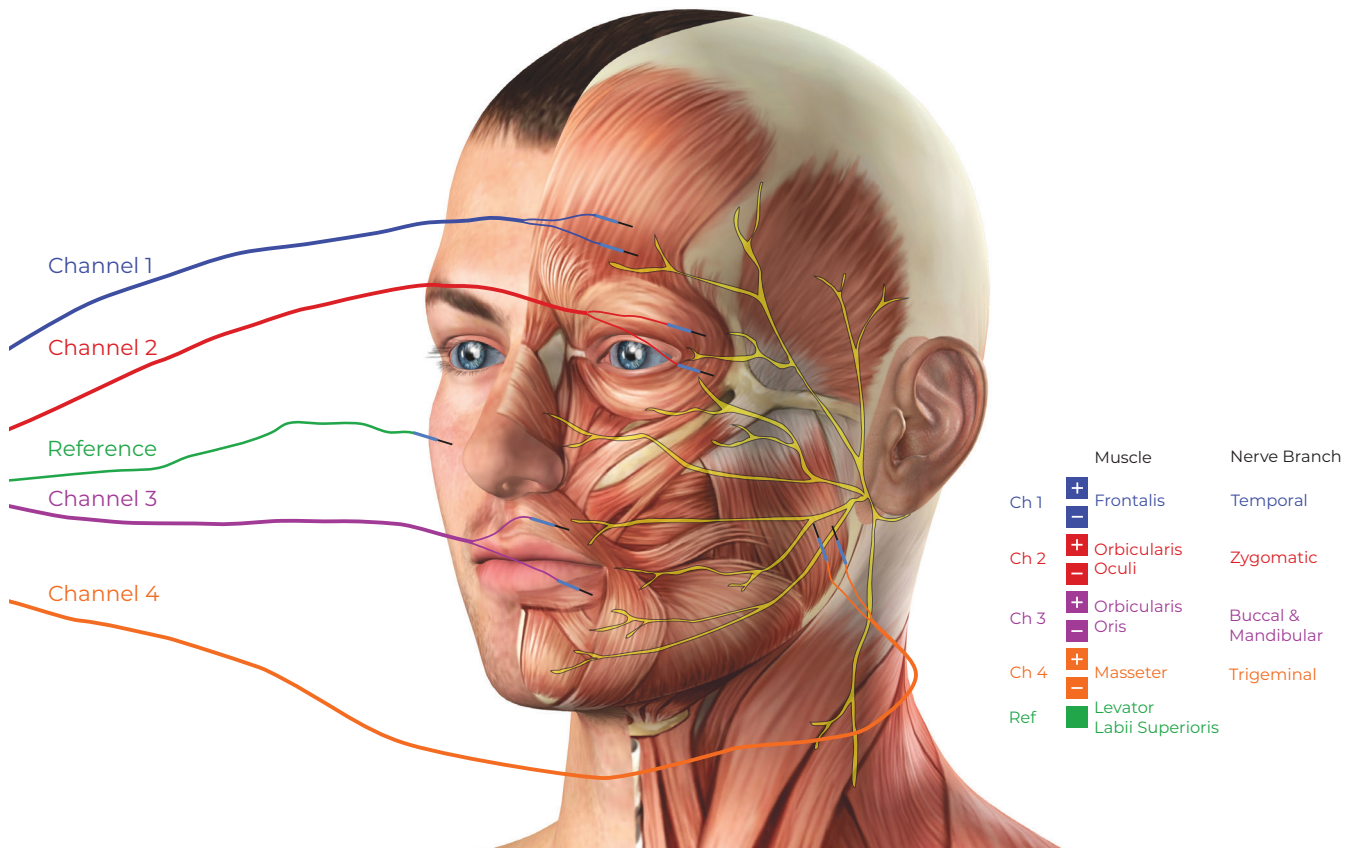

Figure 10.1: Suggested electrode placement for monitoring of cranial nerves VII & V.
2. Insert each pair of Subdermal Needle Electrodes into the appropriate muscles indicated in Figure 10.1 (page 19), with the wires leading away from the surgical site. Ensure that the needles of each electrode are inserted adequately into the muscle and not simply under the skin.